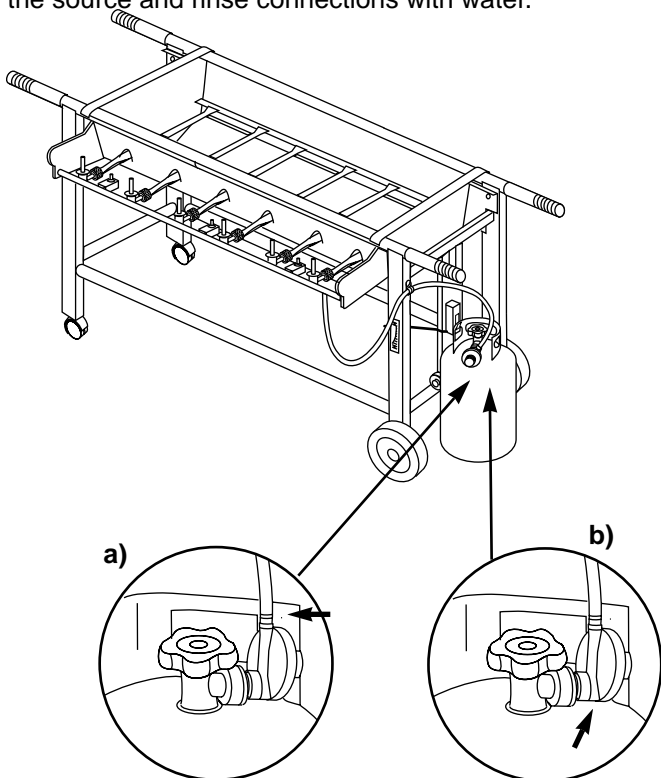

Figure 10
- Hose to regulator connection. Figure 10 (a).
- Regulator to cylinder connection. Figure 10 (b).